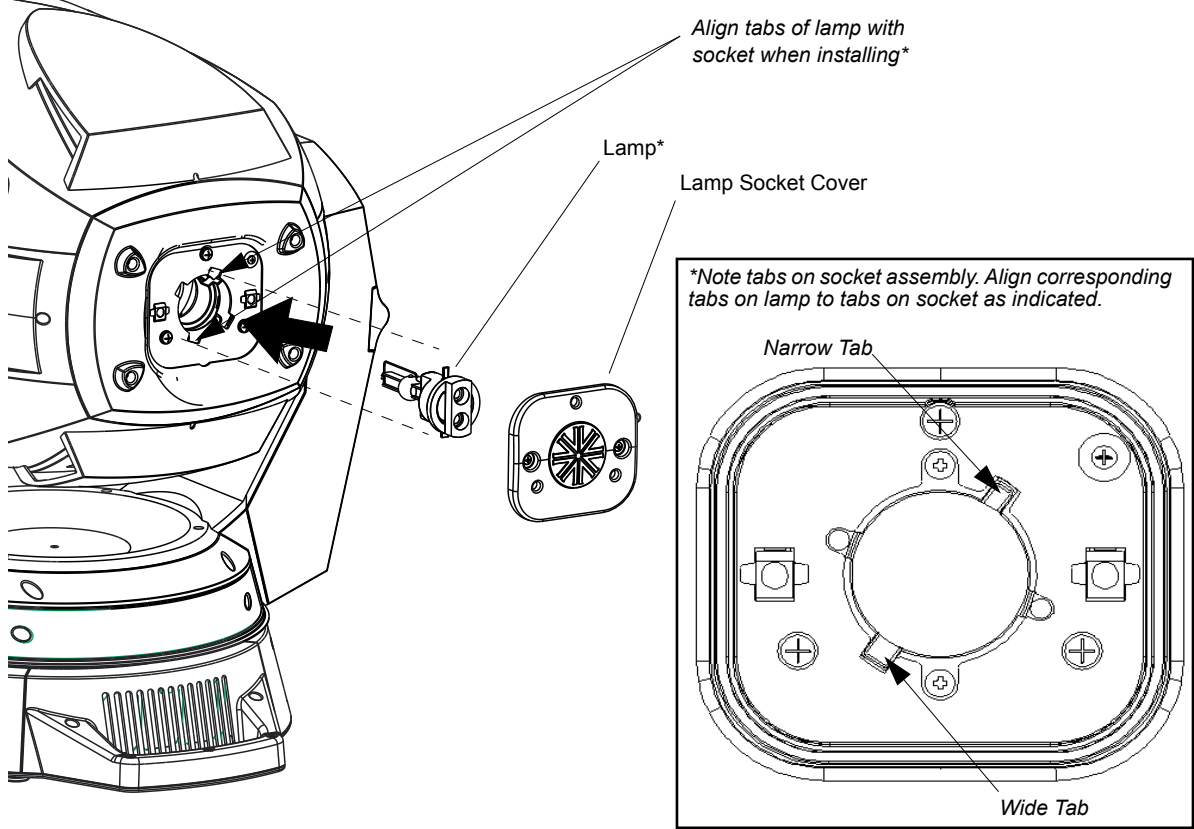

Figure 5: Lamp Installation
Step 6. As shown in **Figure 5**, align lamp tabs with lamp socket.